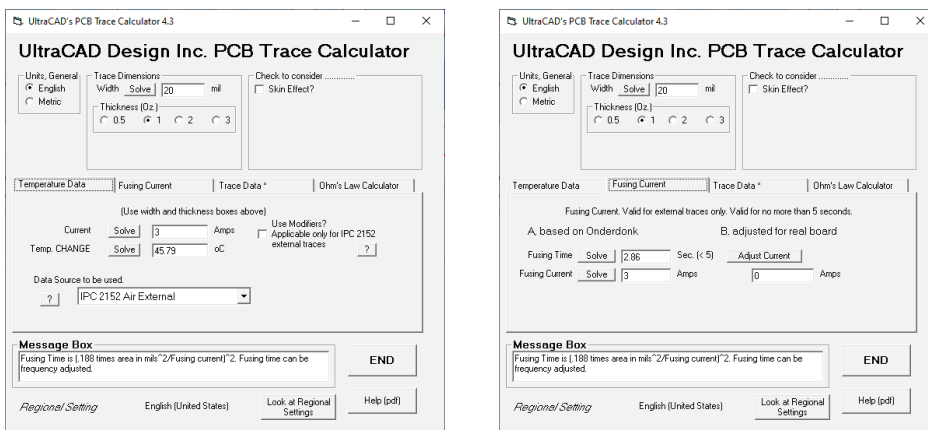

Figure 6.5
I. M. Onderdonk is credited with an equation for the current required to melt a trace (Note 8). Onderdonk's Equation is valuable because it includes the time required to meet the melting temperature. We can use the IPC 2152 data to estimate the temperature rise of a 20 mil wide trace carrying 3 Amps. And we can use Onderdonk's Equation to determine the fusing time for the same conditions. The results are shown in Figure 6.5 (Note 9).